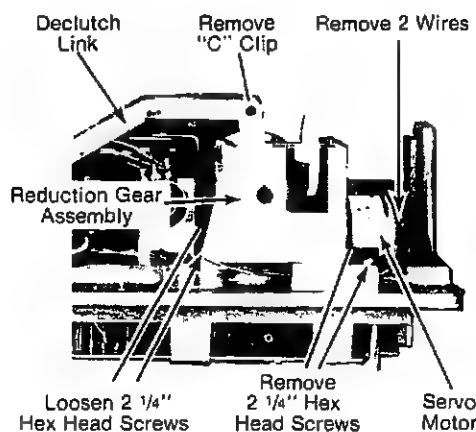

Fig. 2-8. — Reduction Gear Assembly Removal
1. Unsolder and remove servo drive motor wires (Fig. 2-8).
2. Remove declutch link from Reduction gear Assembly by first removing "C" clip retainer (item 68).